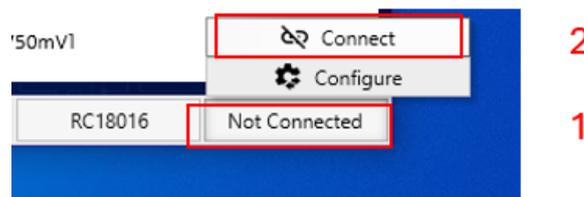

Figure 22. Connect to the Device in RICBox
1. To establish communication between the EVB and the GUI, click the *Not Connected* button (1) in the lower right corner, then click *Connect* (2) (see Figure 22).